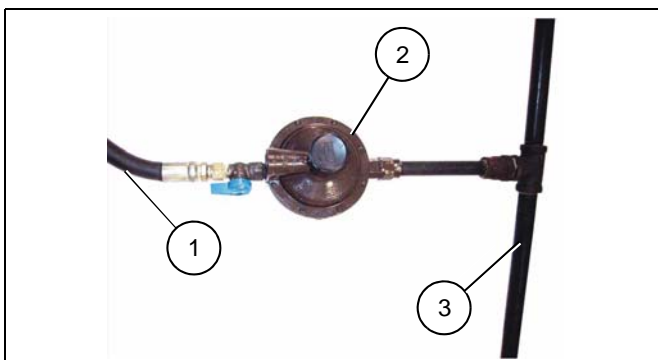

Figure 3B
For gas connection, attach the regulator (2) to the High Pressure Line (3) at the outside of the building as shown in Figure 3B. Connect flexible hose (1) to low pressure end of the regulator with special brass coupling. Refer to table on Page 13 for LP and natural gas requirements.